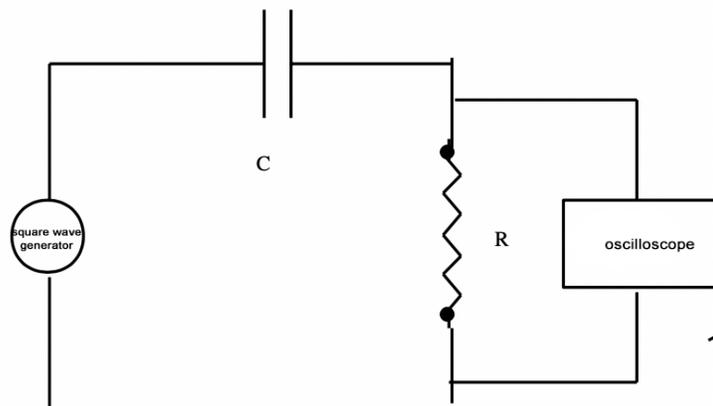

Figure 2: An RC circuit driven by a square-wave generator. R = potentiometer, C = capacitor.
- Set up the circuit shown below in Fig. 2. Be sure that the (black) ground lead from the oscilloscope is connected to the same side of the potentiometer as the (black) ground lead from the signal generator.
1. Put the blue and green capacitors, one at a time, in the circuit shown in Fig. 2, measure and record their capacitance by the time-constant method described above. You need only make one measurement of the time constant for each capacitor (keep the potentiometer dial set to 1.00). (The nominal value of the green capacitor is $0.47\mu\text{F}$. If your measurement of its capacitance is wildly different from this you will want to re-check your measurement.)